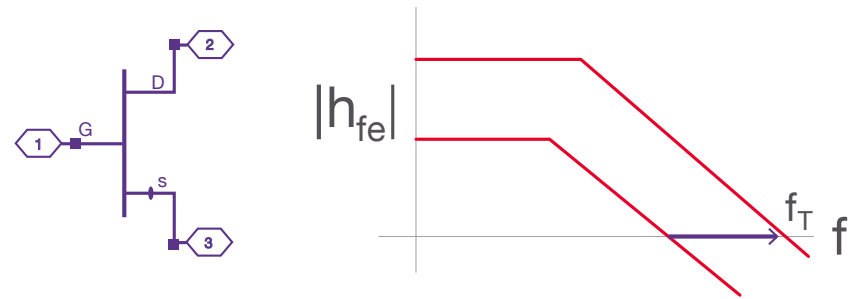

Figure 8. High transistor gain
Using higher frequency transistors complicates the design flow for designing stable circuits. In today's circuits, the gain is higher due to increasing transistor  $f_T$ s, or the frequency at which unity current gain goes to zero, as shown in Figure 8. The additional gain is necessary at lower frequencies to achieve gain at 30, 60, or 90 GHz. Tight integration along with feedback can cause instability problems at lower frequencies from the significant increases in gain. The undesired output-input feedback is prevalent because circuits are denser and resonate easily with signals that have smaller wavelengths. Electromagnetic (EM) effects such as couplings and reflections can cause instability, especially in today's advanced packaging and assembly approaches.